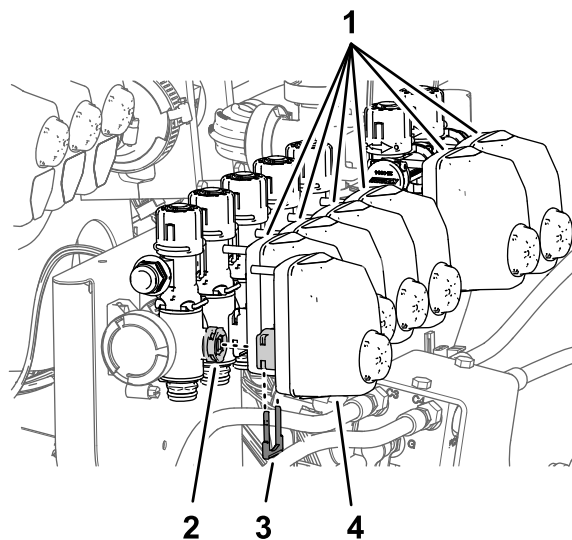

Figure 97
1. Remove the retainers that secure the valve actuators for nozzle valves 1 through 7 (Figure 97).
2. Remove the valve actuators from nozzle valves 1 through 7 (Figure 97).
10. Assemble the valve actuators onto the nozzle valves 1 through 7 (Figure 97) with the retainers that you removed in step 1.